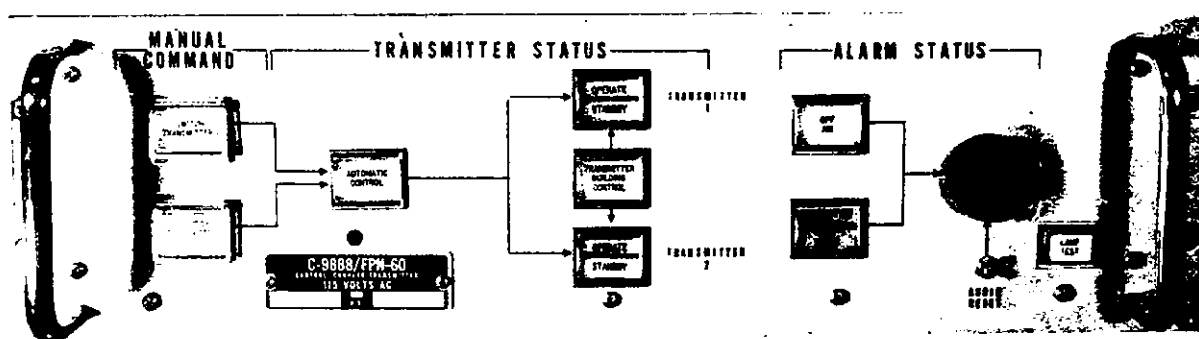

Figure 1.4. 1A2-Transmitter Coupler Control (C-9886/FPN-60)
1.3.2 Transmitter Coupler Control (1A2). The Transmitter Coupler Control (Figure 1.4) contains the Transmitter Control Module W0678-5/XMTR CON, Relay Assembly W0678-13, and Transmitter Control Driver W0678-6/XMTR CON DVR. The Transmitter Coupler Control (TCC) performs the following functions: